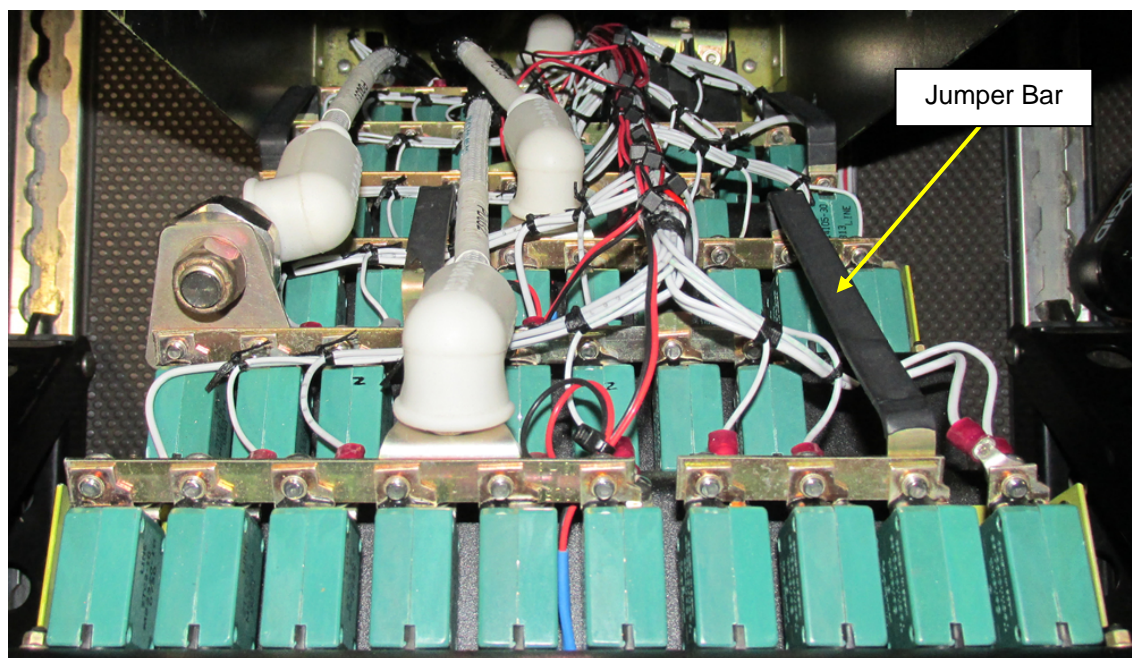

Figure 5-3: Jumper Bar in Original Position
6. Remove the jumper bar connecting the essential bus and the three position bus bar connecting the PANEL LIGHTS, ALT, and ALT SENSE circuit breakers. See **Figure 5-3**.